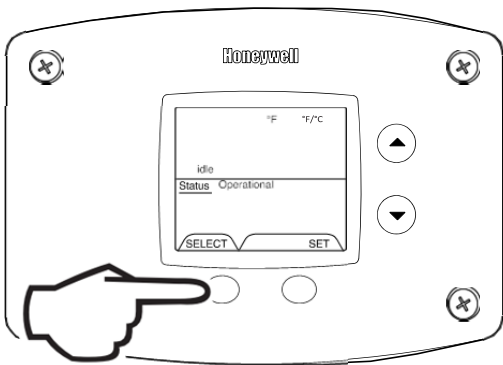

Fig. 53
1. While in 'Service Mode', press 'Select' button until '°F/°C' is shown in the upper right portion of the water heater display (Fig. 53).